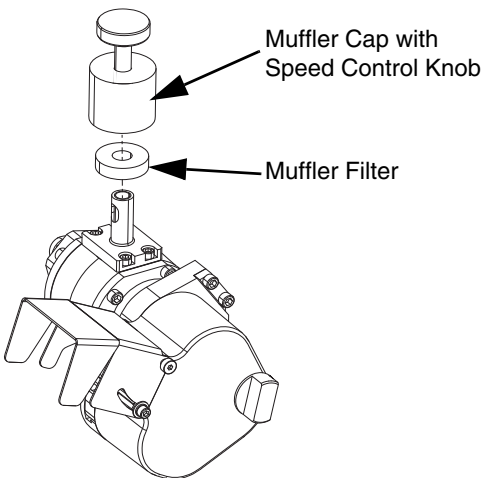

FIG. 9
3. Refer to **Figure 9**. Remove the muffler cap and speed control knob by turning the cap counterclockwise.